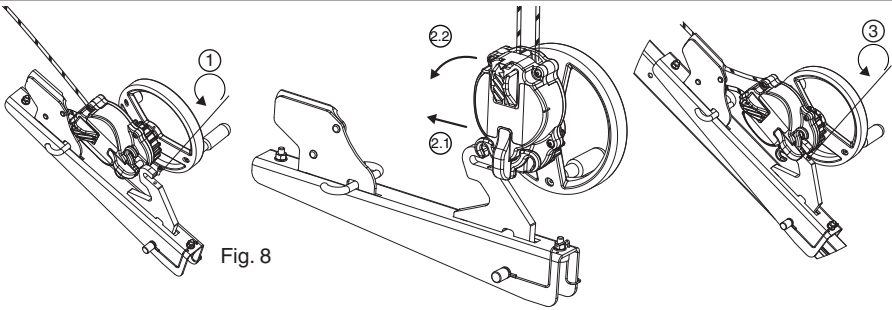

Fig. 8
6.3.4 DEROPE™ descender UP R (Figs. 8, 9 and 10)
The DEROPE™ UP R descender must be secured to the leg of the Tractel® TRACPODE™ as shown in Fig.8. Any other mounting position on any other point of the Tractel® TRACPODE™ is strictly prohibited.
1. Unscrew the screw securing the hook by which the bracket is fastened to the DEROPE™ UP R descender (Fig. 8,1).
2. Install the DEROPE™ UP R descender on the fastening hook (Fig. 8, 2.1 – 2.2).
3. Screw in the locking screw to prevent the unit from separating from its bracket (Fig.8, 3) and check that it is properly positioned and tightened.